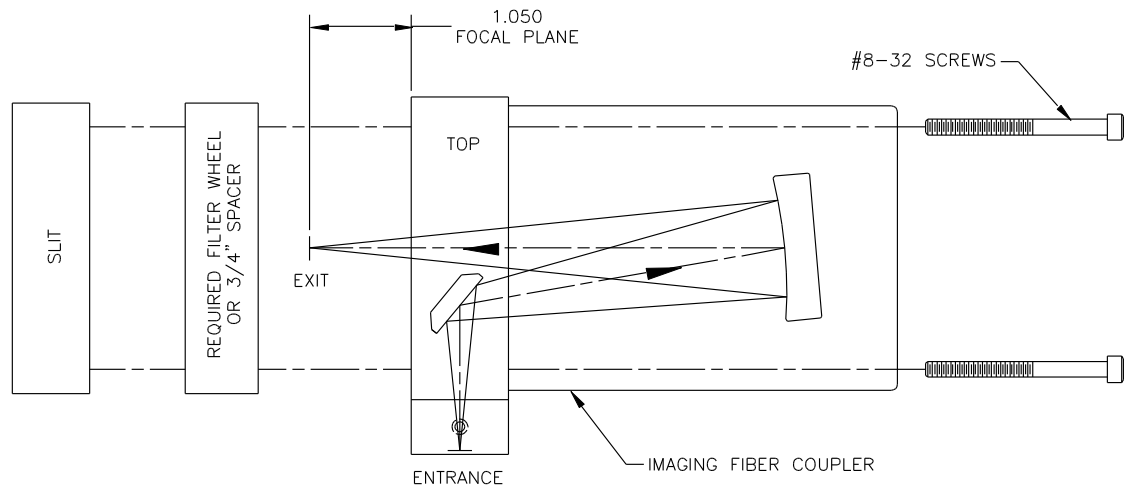

FIGURE 1
1. Mount the Imaging Fiber Coupler and either the Filter Wheel or the Princeton Instruments provided Spacer to the Entrance Slit of the SpectraPro Spectrograph with the “TOP” label oriented at the top of the assembly (See Figure 1), using the four (4) #8-32 screws provided.